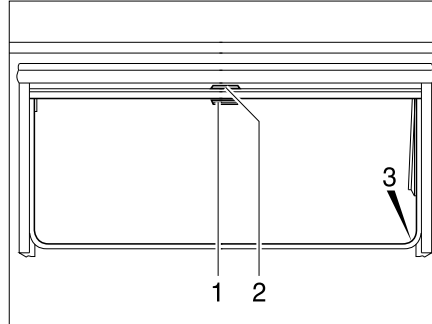

Fig. 80 Hinged window
- Pull blind at the handle (Fig. 80,2) downwards. If the blind is to be completely closed, it is suspended into the locking devices (Fig. 80,3) situated on both sides of the window frame.
- If the blind is completely closed: Press handle (Fig. 80,2) downwards and, at the same time, tilt it slightly inward. The blind can be taken out of the locking devices situated on both sides of the window frame.
- If the blind is in an intermediate position: Pull the handle (Fig. 80,2) slightly downwards until the locking device releases.
- Pull insect screen at the handle (Fig. 80,1) down and hang it into the locking devices (Fig. 80,3) situated on both sides of the window frame.
- Press handle (Fig. 80,1) downwards and, at the same time, tilt it slightly inward. The insect screen can be taken out of the locking devices situated on both sides of the window frame.